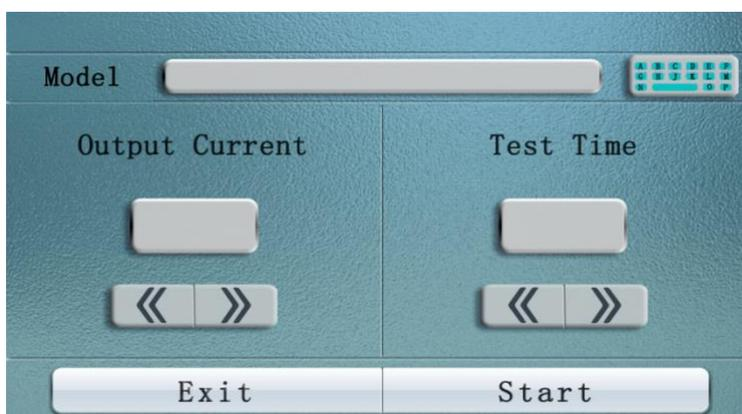

Figure 2
2、 Press "Data test" to enter the following interface, as shown in figure 2
- 1, wiring methods: as shown in Figure 2, special test line the color red to red, black to black, the thicker current line connected with corresponding I +, I - terminal screws tightly, the thinner power line inserted into the socket V +, V -, two clamped tested on the product ends.